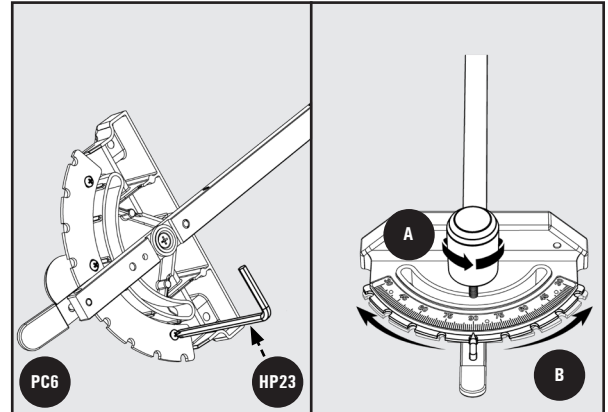

Figure 28
Use the supplied 3/16 inch two-way Allen wrench L Shape **HP23** to loosen the three Phillip screws located in the back of the miter gauge **PC6**, seen in Figure 28 .
1. Loosen the knob **A**, seen in Figure 28.
2. Adjust the detent plate **B** so that the indicator measures the correct angle, seen in Figure 28.